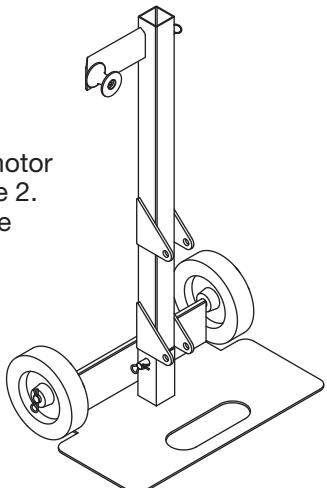

Figure 2
- Insert the motor adapter assembly into the dolly. Make sure to insert the motor mount as shown in Figure 2. Attach and lock it with the pin.